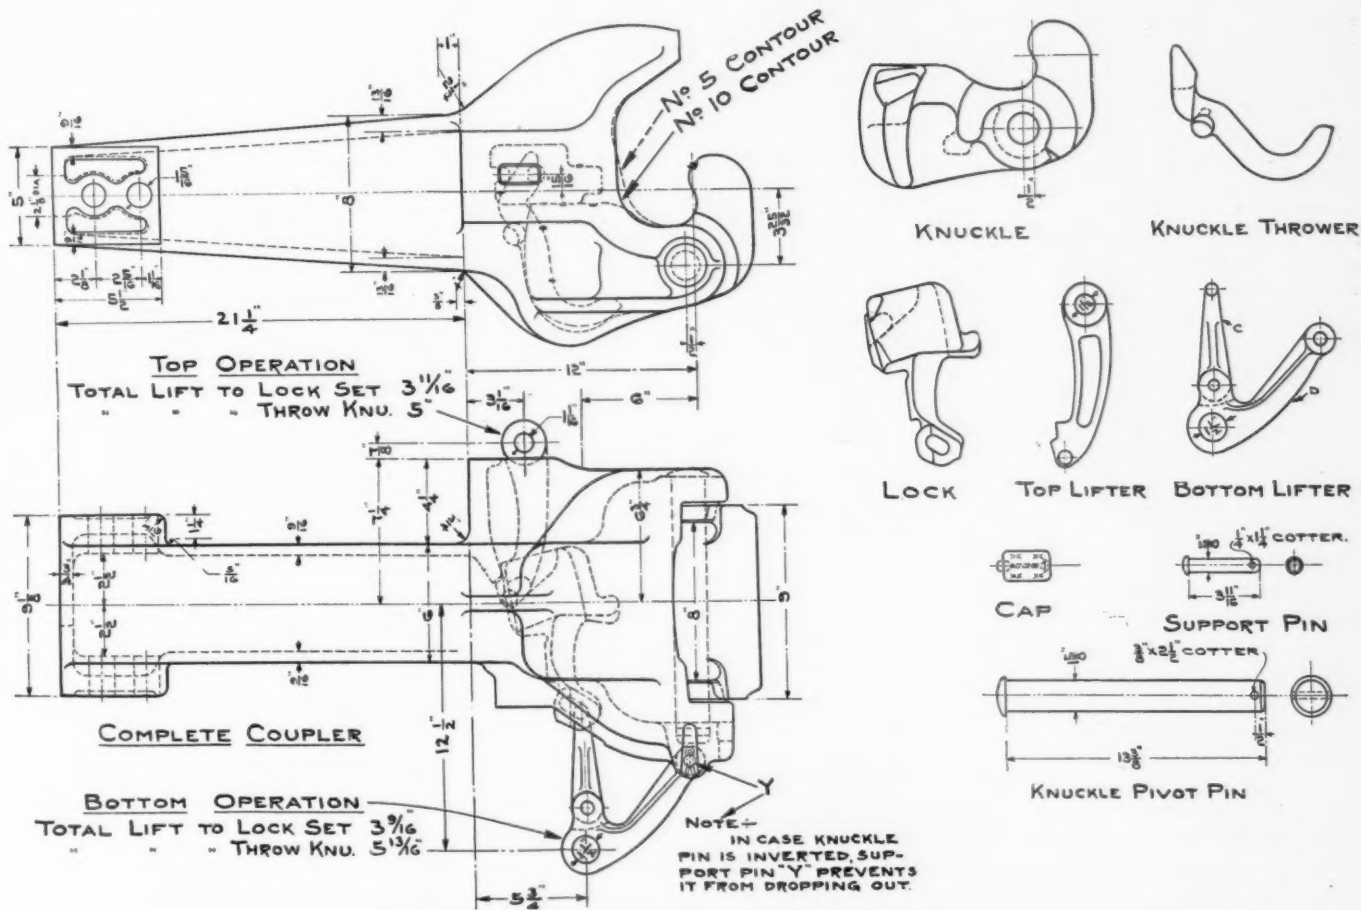
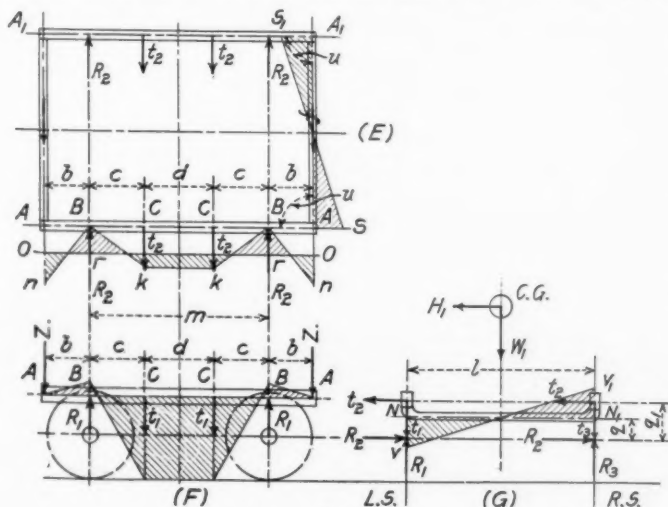

Fig. 2—Type D Experimental Standard M. C. B. Coupler
Fig. 3
The principal changes involved in the type *D* coupler (Fig. 2), which supersedes type *B*, are as follows:
In Fig. 3 is diagrammatically shown a four-wheel truck, which may represent any type of the four-wheel truck; we are interested in the nature and intensity of external forces, and the effect which they may produce in creating internal forces in the structure itself. The method of determination of stresses in one type of truck may be applicable to any other under the same system of loading.
found by formulas (23) and (24) in connection with Fig. 2.\*  $H_1$  is the horizontal force at the center of gravity of the weight on the springs. Now, in Fig. 3 let